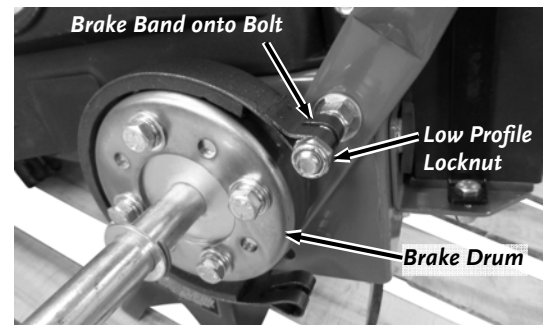

Figure 11
14. Place the Brake Band over the Brake Drum with the top loop of the Band over the 2-1/4" Bolt (**Figure 11**). You may discard the small Barrel included in the Brake Band package.